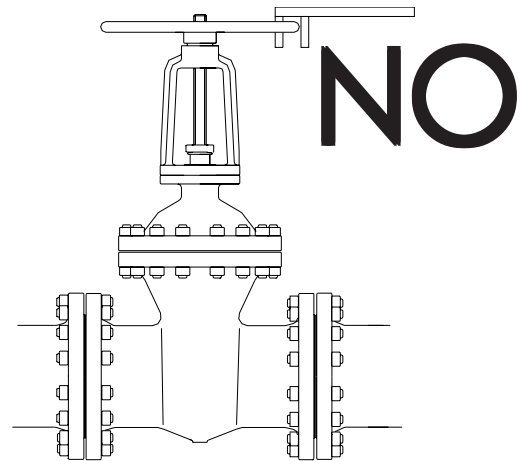

Fig. U-1
1) During a manual operation it's not absolutely allowed to use a bar or another force-increasing extension to operate the valve (Fig. U-1). This prescription is valid also for manual operation of valves provided with gearbox or electric actuator. Be careful to don-t apply an excessive force to the handwheel because a such attempt can cause irreparable damages to the valve.